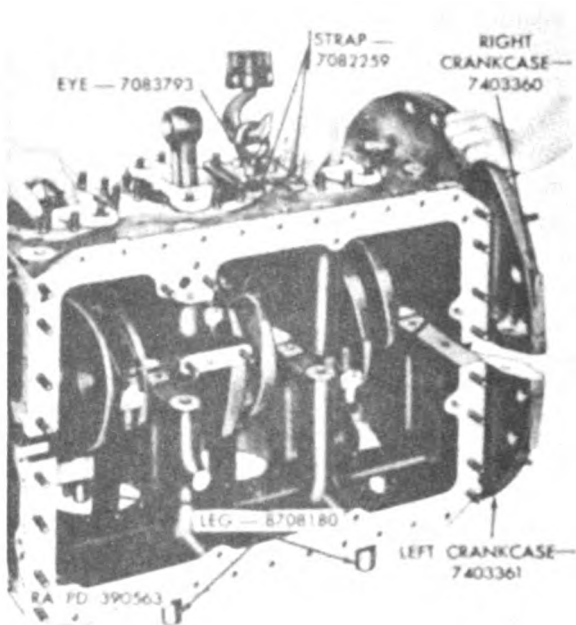

Figure 59. Separating or joining left and right crankcases.
59) on left crankcase; one leg on third stud above and one leg on third stud below dowel pin on accessory side of No. 2 cylinder mounting pad, and two legs on flywheel side of No. 6 cylinder mounting pad. With the aid of an assistant, roll crankcase assembly on left side so it is resting on the support legs, as shown in figure 59.
- (5) Remove remaining crankcase flange and crankcase fan drive housing hex self-locking nuts or hex stamped nuts and hex nuts, plain washers, and bolts.
- (6) Attach crankcase lifting eye 7083793 (fig. 59) to cylinder mounting studs over thru bolt straps on right crankcase with $\frac{7}{16}$ -inch hex nuts. Lift right crankcase half from left crankcase using a hoist as shown in figure 59. Set right crankcase half on wooden blocks. Remove hex nuts securing lifting eye to crankcase and remove eye and straps.